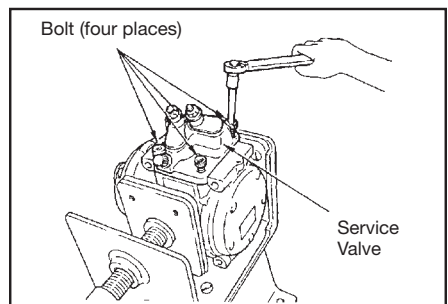

Fig. 3
7. Attach service valve(s) or service valve cap(s) to compressor using original bolts and torque bolts to 24.5 N·m(250 kgf·cm, 18.1 lbf·ft). (See Fig. 3)